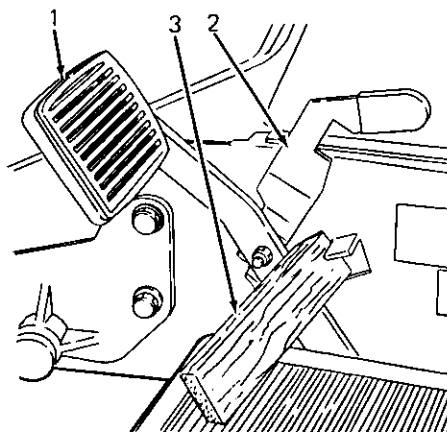

Figure 22
1. To check brake adjustment, place a 1 inch thick wood block between the single brake pedal and the brake pedal lock (see Figure 22.)
2. With the 1 inch thick wood block installed, the brake disc pads should be applying a light amount of friction against the brake disc rotor. If they are not, the brakes need adjustment (see Figure 22.)
2. Place a 1 inch thick wood block between the single brake pedal and the brake pedal lock (see Figure 22).